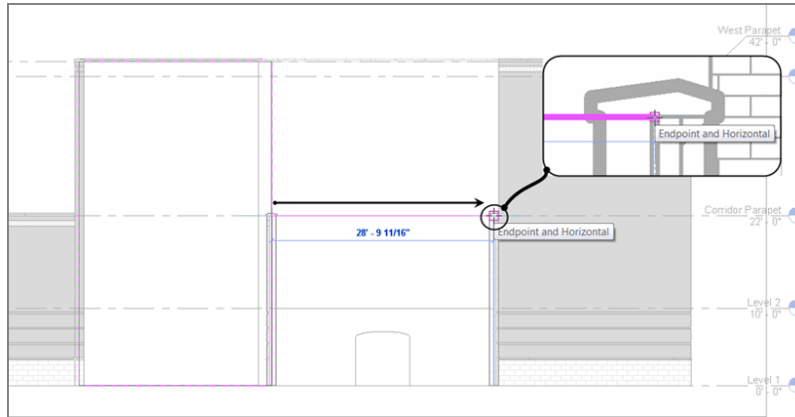

FIGURE 3.45: Drawing the line from the left wall to the right
7. Draw the line to the right until you intersect with the centerline of the corridor wall, as shown in Figure 3.45.
8. When you see the snap icon appear, pick this point (see Figure 3.45).